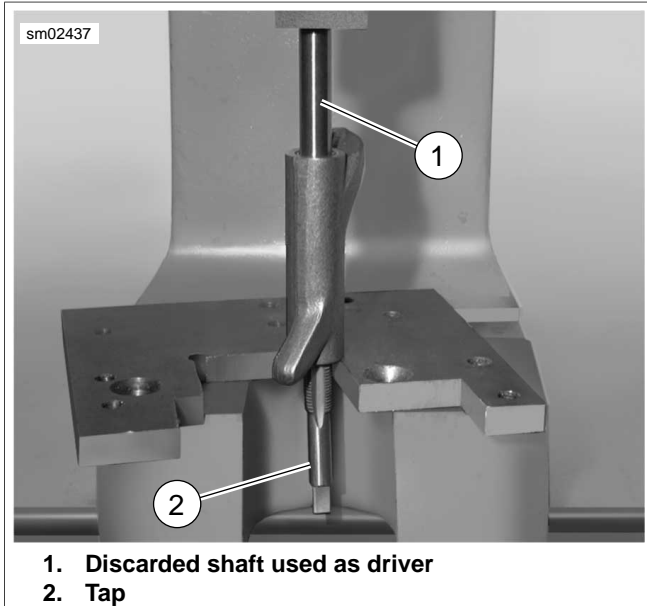

Figure 3-74. Removing Bushing
1. See Figure 3-74. Turn a 9/16"-18 tap (2) into bushing until tight. Place rocker arm under ram of arbor press with tap at bottom. Slide a discarded rocker arm shaft (1) through open end of rocker arm until contact is made with tap. Using shaft as driver (and untapped bushing as pilot), press against shaft until both tap and bushing are free.